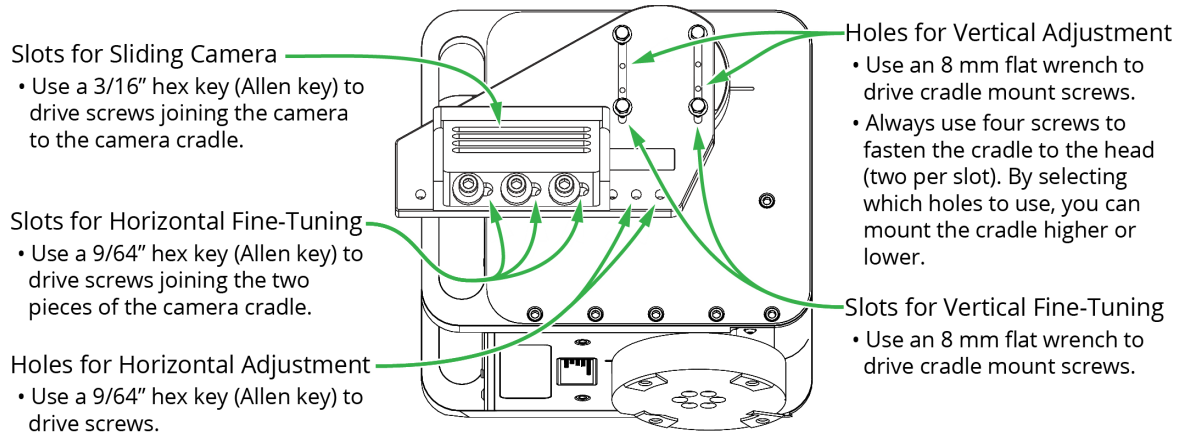

Figure 10 - Payload Balancing Adjustment Features
The head and camera cradle are designed to make balancing easy. **Figure 10** illustrates the following payload balancing adjustment features:
4. Use the horizontal adjustment features (see **Figure 10** on **page 19**) to move the payload away from the direction it tilted, and then test again.
4. Use the vertical adjustment features (see **Figure 10** on **page 19**) to raise or lower the payload as required, and then test again.